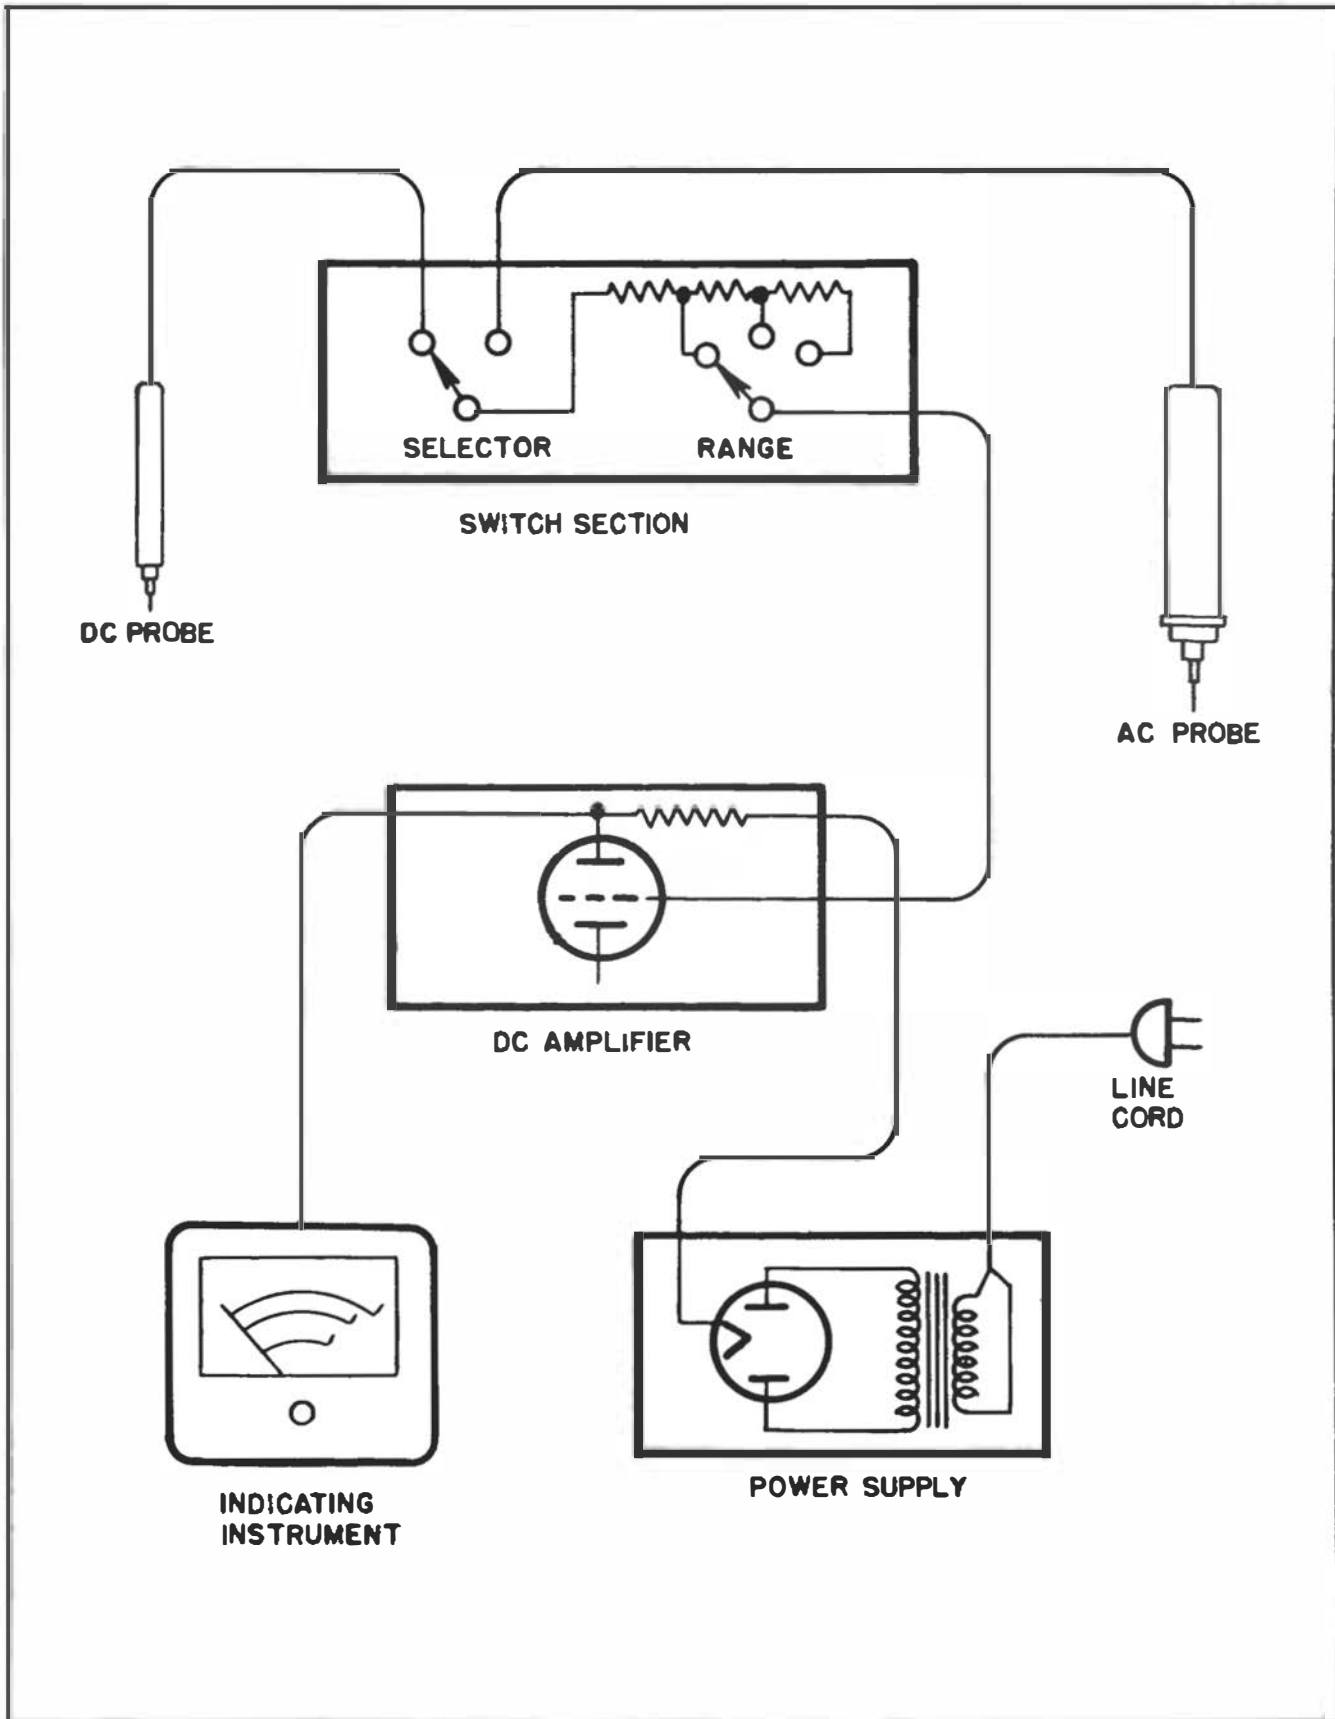

Figure 3-1. Voltmeters TS-375/U and TS-375A/U, Block Diagram
a. The six major circuit sections are shown in the block diagram (See figure 3-1). Energy from the circuit under test is picked up through either probe, is subdivided in the switch section and fed to the input amplifier grid. The power supply energizes the amplifier which in turn operates the indicating instrument in proportion to the potential at the amplifier input grid.
- (1) Power Supply
- (2) D-C Amplifier
- (3) Switch Section
- (4) D-C Probe
- (5) A-C Probe
- (6) Indicating Instrument
c. POWER SUPPLY.—(See figure 3-1.) The power supply is designed to supply the d-c amplifier with the necessary supply voltages for its operation.